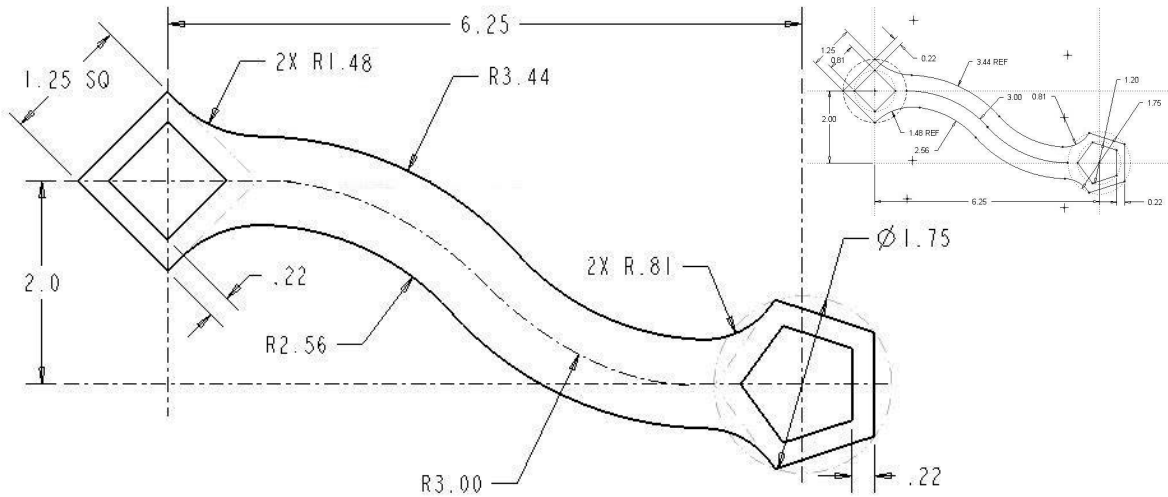

Figure 3-80 Problem 11
- 3.11 Challenge problem - Draw the Special S-wrench (Figure 3-80). Design Intent** — All arcs are tangent to each other and the edges of the two end shapes. The diamond shape is 1.25 inches per side. The outer pentagon fits inside a circle of 1.75 inches in diameter. The inner pentagon uses a 1.20-inch diameter circle. The 3-inch radius centerline is tangent at both ends and at its midpoint.